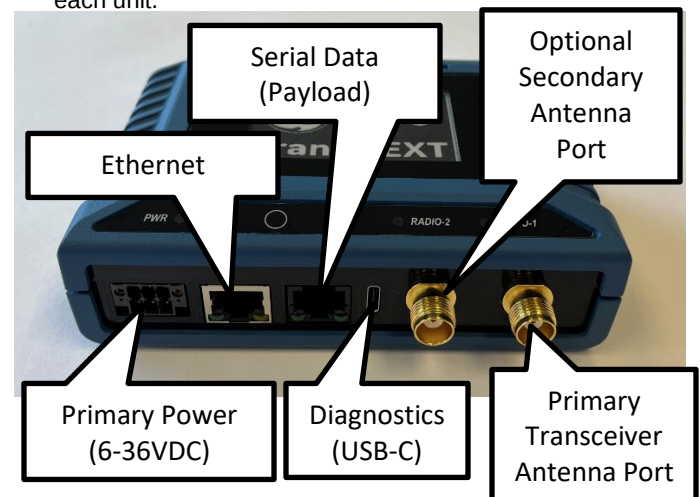

Figure 7: Interface Connector Functions
4. Connect the data equipment to the transceiver's DATA connector. Use only the required pins for the application. Refer to Figure 7.